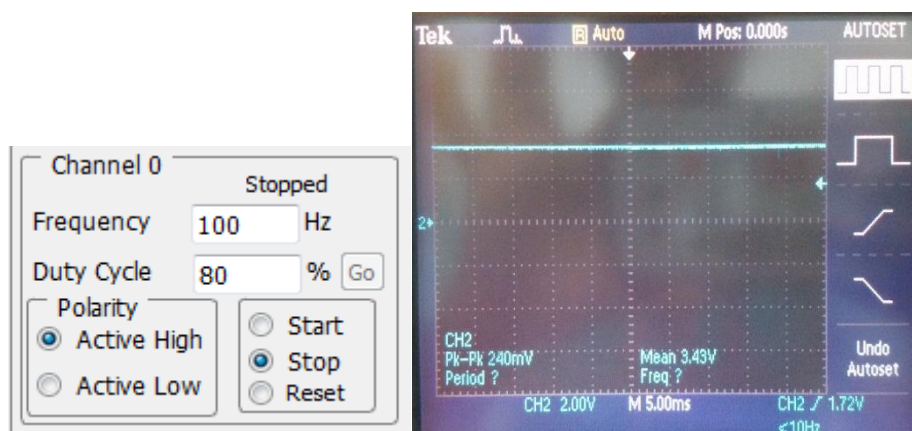

Figure 14: Stopping the PWM
- The screen shot of the oscilloscope would be as shown in Figure 14.